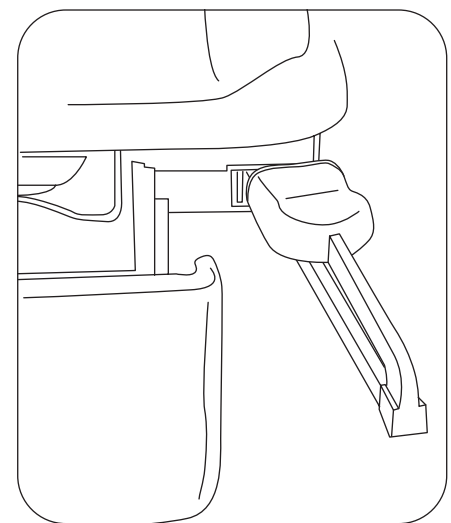

Figure 17. Storing the Stirrups
1. To store the stirrups in the table, grasp end of stirrup and pull straight out to its full extension (Figure 17).